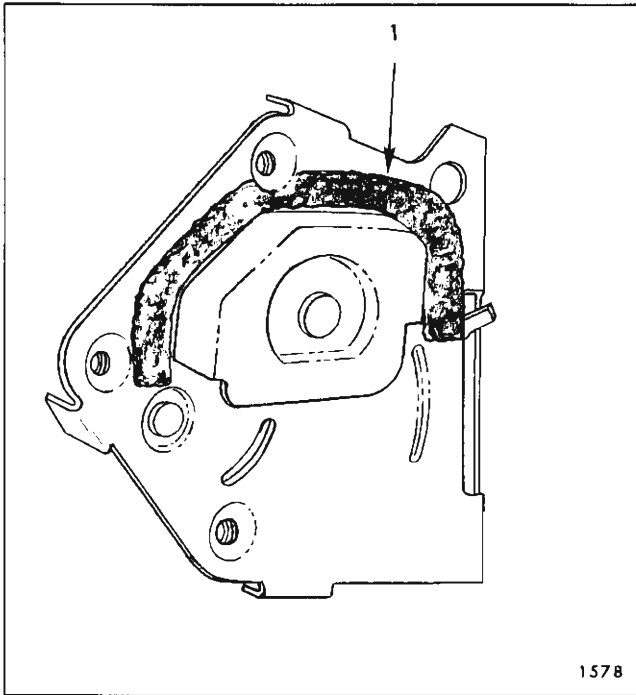

Fig. 2F26—Tail Gate Lock Caulking
2. Remove lock striker attaching screws and remove striker and adjusting plates from body pillar. (See Fig. 2F22).